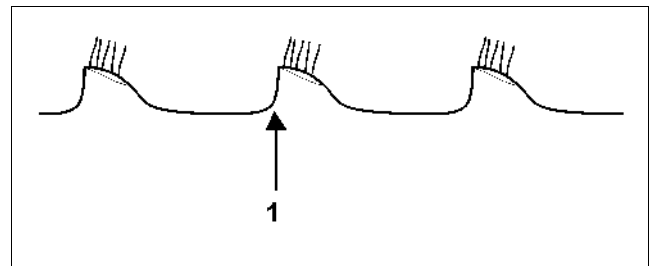

Fig. 22
- The cutting edge of the 2nd disc row is not visible and follows the 1st disc row (Fig. 22): Adjust 1st disc row to the left hand side.